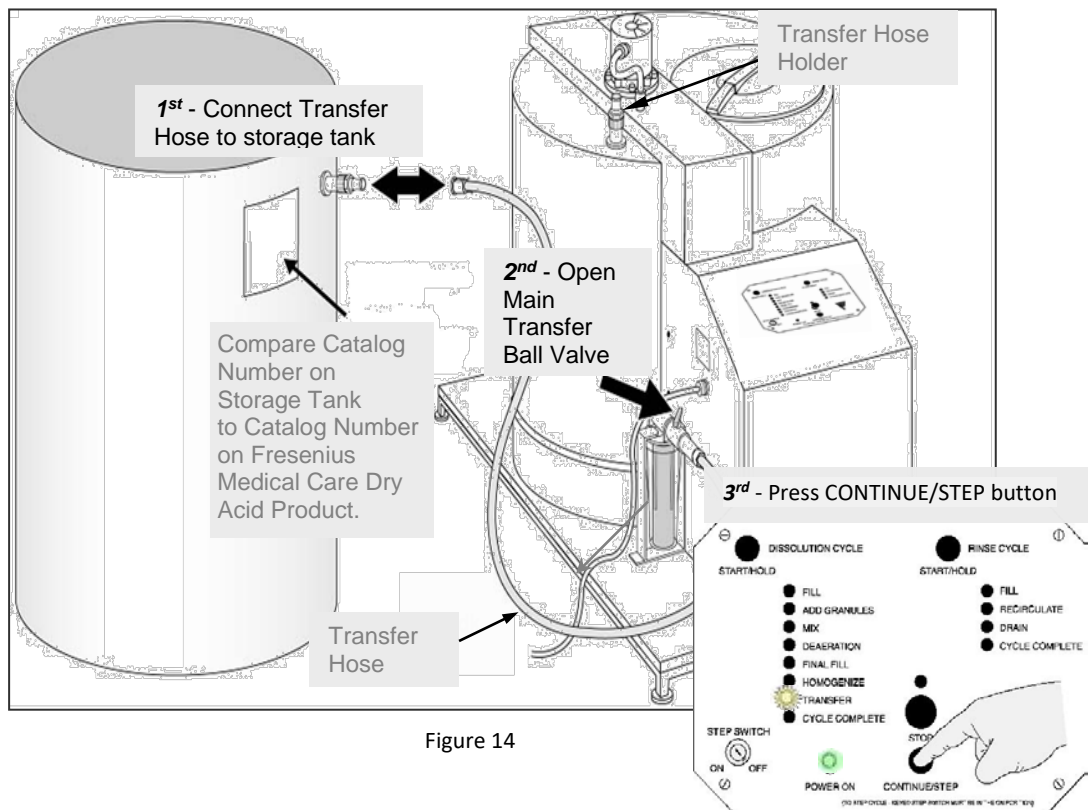

Figure 14
2. Connect Transfer Hose to the storage tank and OPEN Main Transfer Ball Valve at the side of the Filter Housing. Press the CONTINUE/STEP button to transfer concentrate into the storage tank (Figure 14).